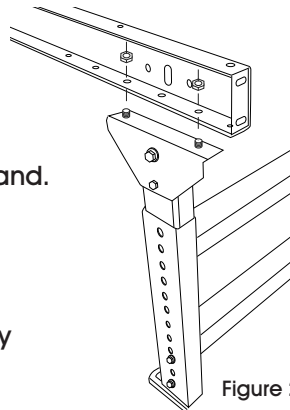

Figure 2
2. **Bolting two H-Stands to one conveyor frame:** Position H-Stands on the end of the conveyor frame, lining up with two holes on the end. Fasten bolts through conveyor and H-Stand. (See Figure 2)